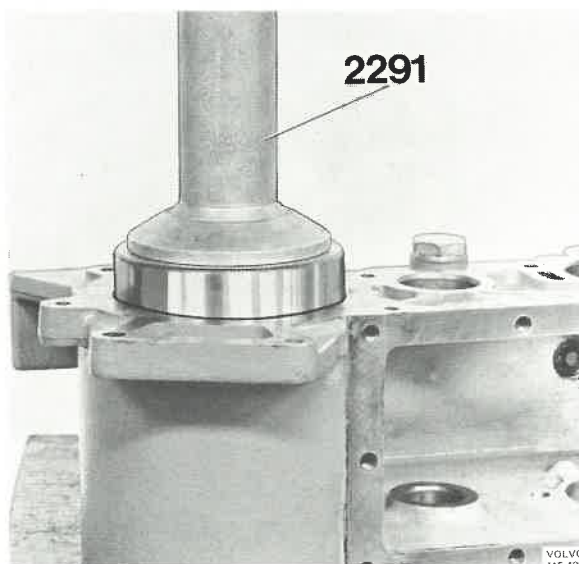

Fig. 43-186. Pressing in cluster gear
1. Place drift 6111 in plate 6109 and place them on the press table. Press the inner race and washer on the output shaft, Fig. 43-185. Fit the circlip for the cluster gear bearing in the housing. The circlip should be fitted with the dished side facing the bearing. Place the auxiliary gearbox in a press with the rear end resting against the press table. Press in the cluster gear with 2291, Fig. 43-186. Note that the bearing